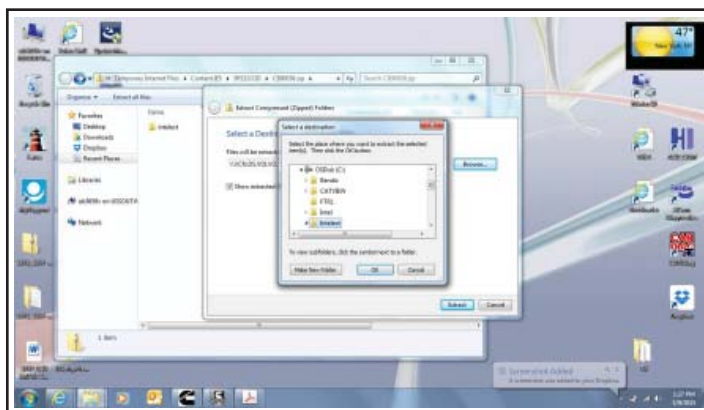

Figure 10 - Selecting Intellect
1.10. Click on Intellect. See Figure 10.